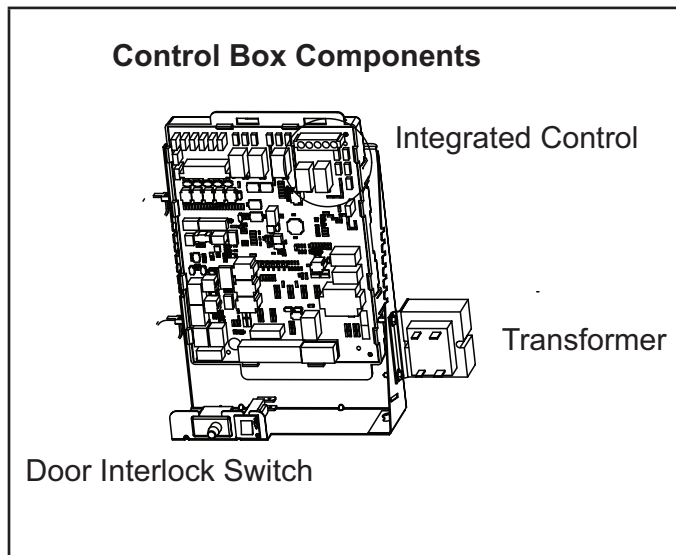

FIGURE 2
ML296DFVK(X) unit components are shown in FIGURE 1. The gas valve, combustion air inducer and burners can be accessed by removing the access panel. Electrical components are in the control box (FIGURE 2) found in the blower section.